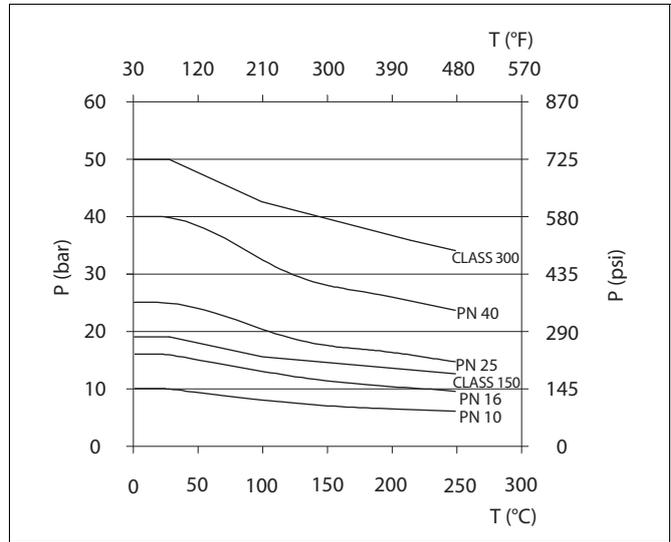

Fig. 7 Pressure/temperature curves of valve body CF8M and CG8M
- Temperature range: see Fig. 7